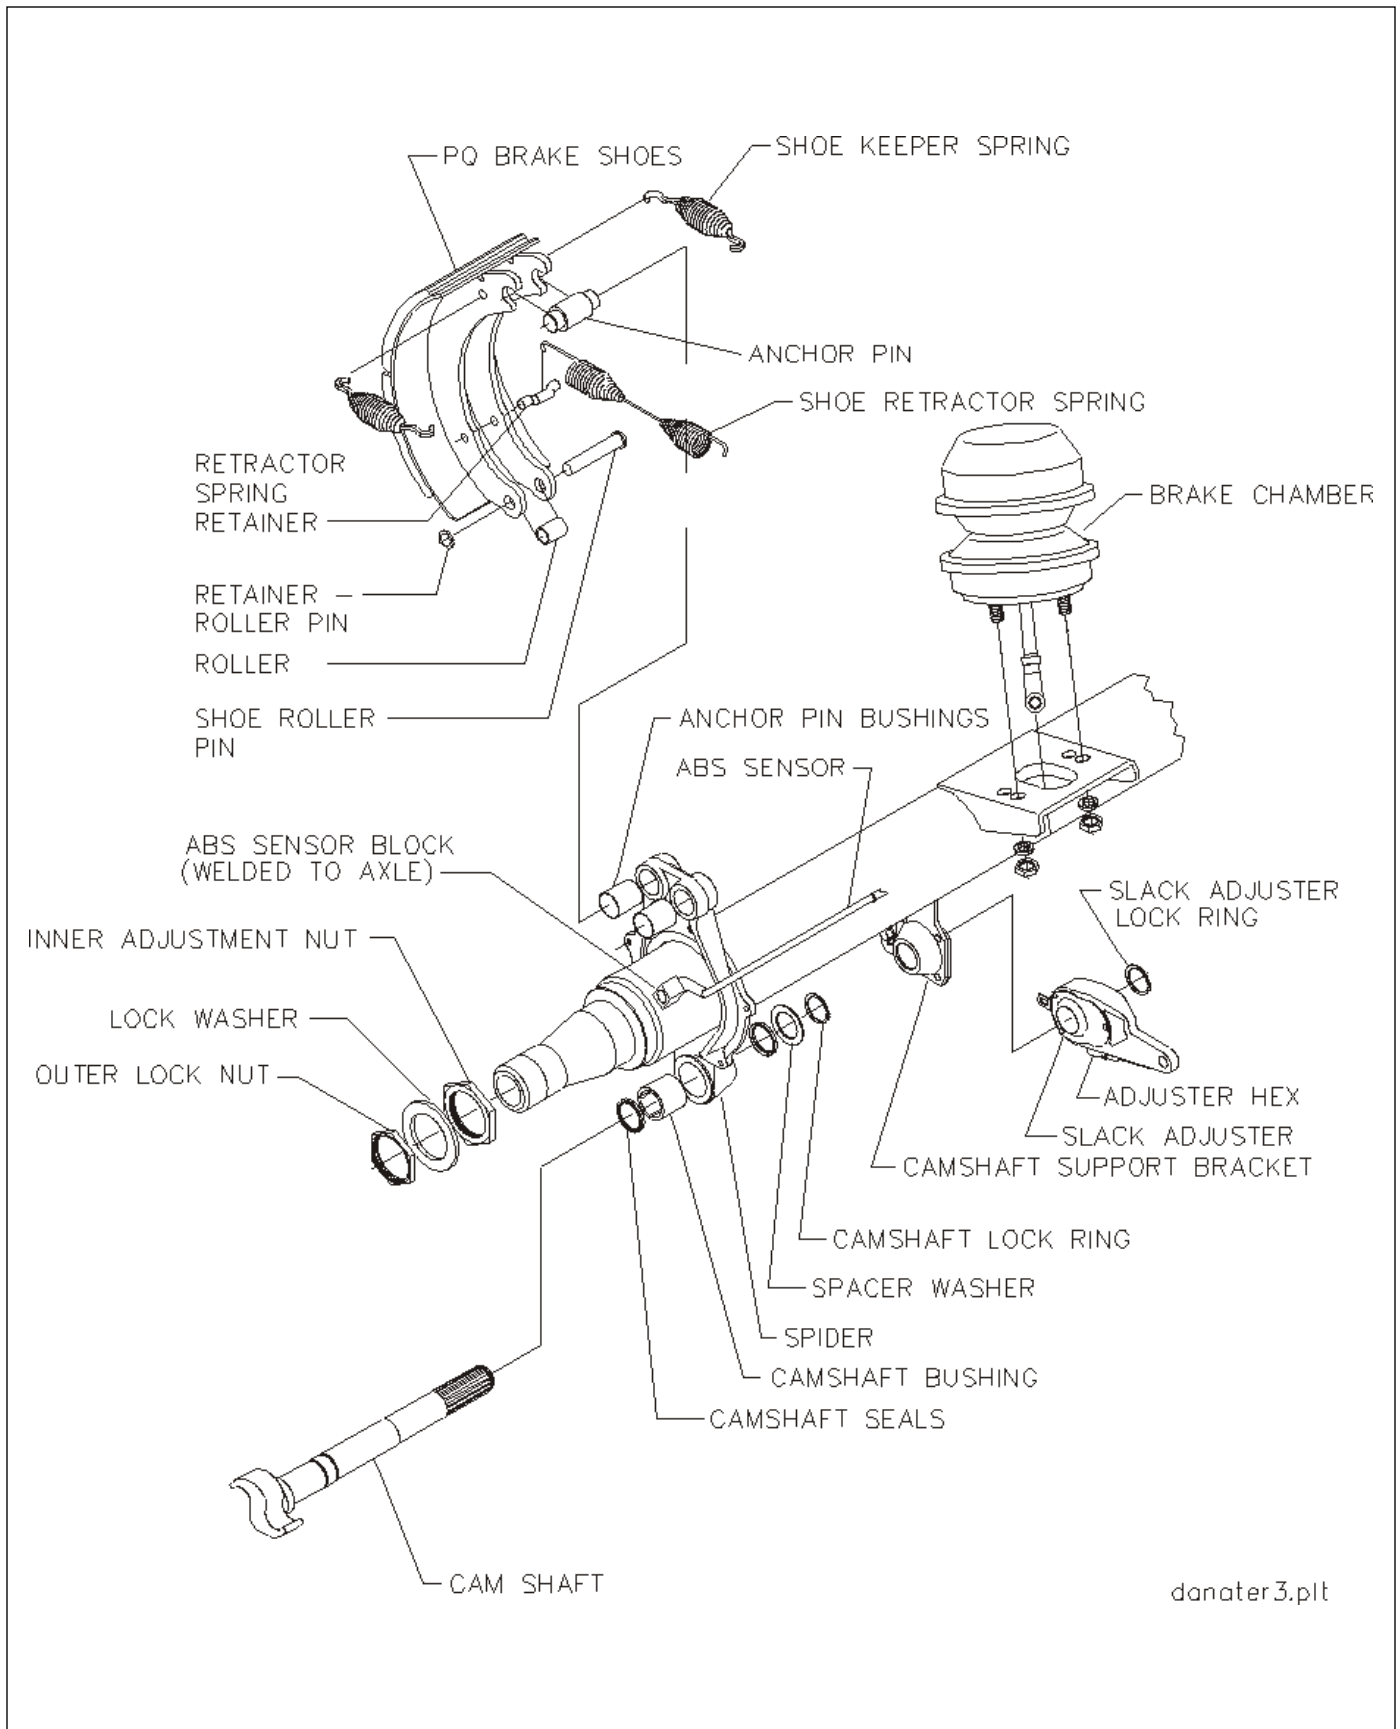

Figure 4-15: Axle and Brake Assembly
1. Release brakes and back off slack adjuster (See Figure 4-15.)
1. Install new anchor pin bushings, camshaft bushing and camshaft seals into the spider (See Figure 4-15.)